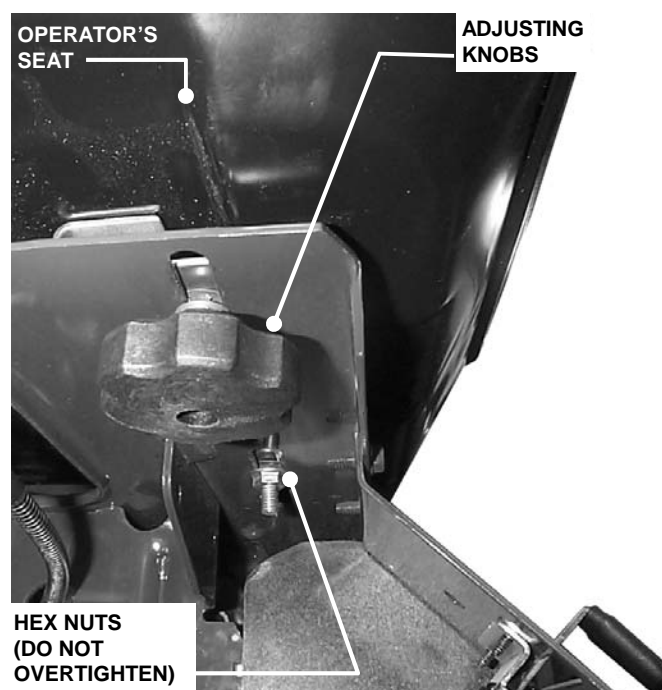

FIGURE 2.3
2.1.4. Adjust seat as needed to most comfortable position. Refer to Section "OPERATOR'S SEAT ADJUSTMENT". See Figure 2.3.
1. With the engine stopped, loosen the two adjusting knobs and move seat to desired position. After adjustment, tighten knobs securely. If seat does not move after loosening knobs, it may be necessary to loosen the hex nuts located at the rear of the seat. The adjusting knobs need to be positioned as shown so as not to interfere with seat mounting plate when returned to sitting position. See Figure 2.3.